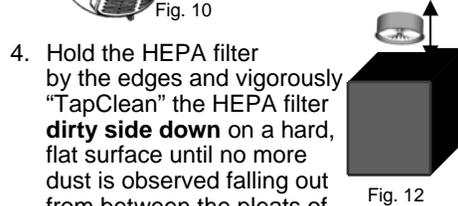

Fig. 12
4. Hold the HEPA filter by the edges and vigorously "TapClean" the HEPA filter **dirty side down** on a hard, flat surface until no more dust is observed falling out from between the pleats of the filter. (Fig. 12) We recommend washing the HEPA filter once a month or when suction appears to be reduced. Let the HEPA filter air dry completely for 24 hours.